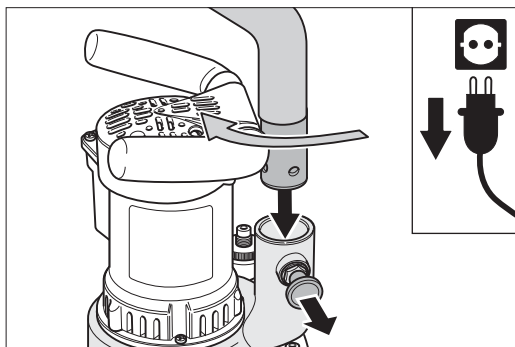

Fig. 25 Pull out the stop bolt and turn the fan tube.
- 1 pull the stop bolt in the fan housing (Fig. 25),
- 2 at the same time, turn the fan tube until the dust bag is located over the attachment and the stop bolt noticeably snaps into place when let go (Fig. 25).